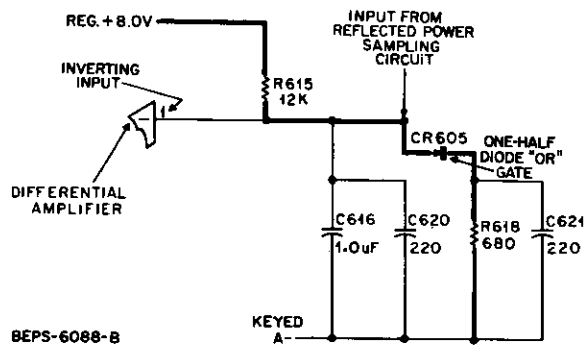

Figure 6. Reference Power Bias Circuit
2.2.4 When the impedances of the antenna circuitry (load) and the power amplifier are matched (a VSWR of 1:1), a bias voltage produced by the dc reference bias circuitry is placed on the inverting input (also called the "reference input") of the differential amplifier (see Figure 6).
Refer to Figure 6. The reference bias is developed (with a 1:1 VSWR) by the voltage divider made up of two resistors and a diode between the regulated supply voltage and the switched A – source. Since A + is applied to the board continuously and A – is only applied when the transmitter is keyed by the push-to-talk switch, the larger capacitor connected between the inverting input and keyed A – provides a time constant which allows the inverting input bias to build up slowly when power is first applied. This prevents full power output from occurring until the leveling circuitry can react and reach a quiescent level.